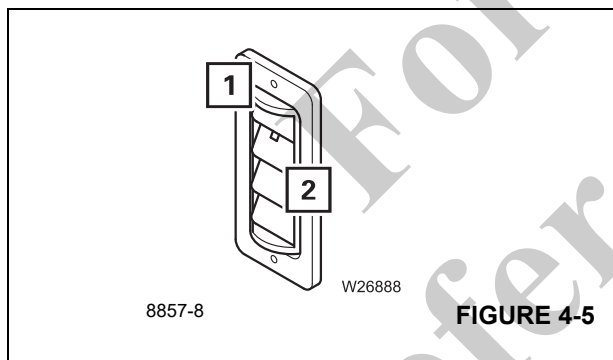

FIGURE 4-5
| To open the vent:       | Raise the fins (2), (Figure 4-5) |